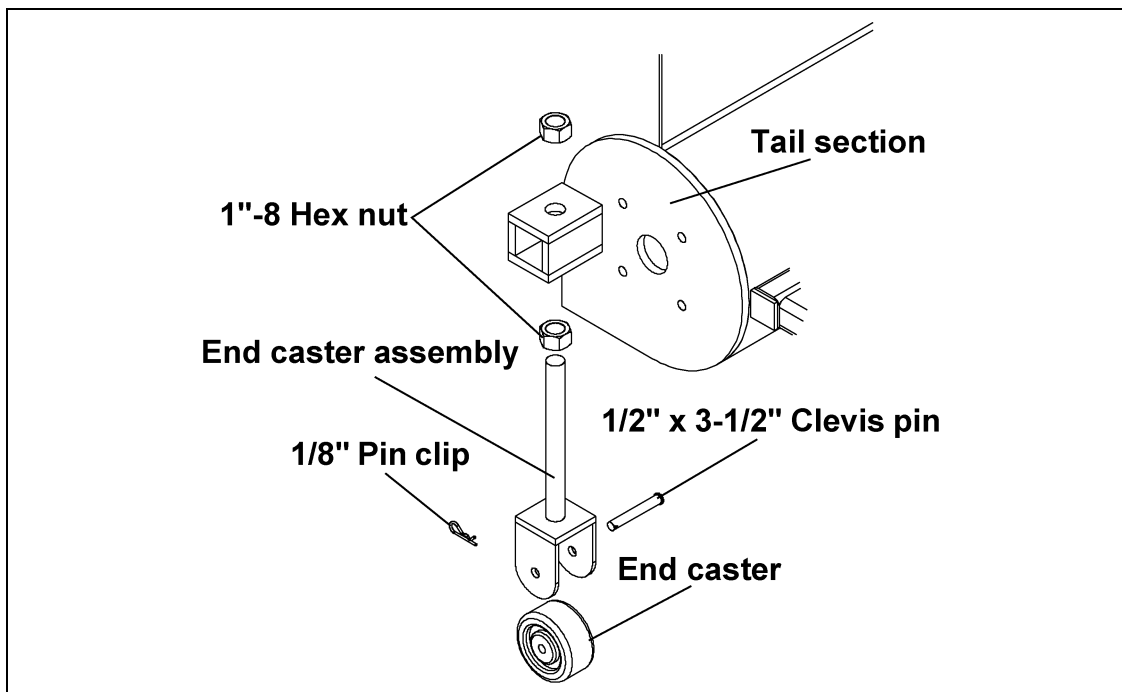

Figure 5I
B. **(All 16" Models and 12" Models with extensions.)** Assemble the end caster to the end caster assembly using the 1/2" x 3-1/2" clevis pin and 1/8" pin clip as shown in See Figure 5I.
C. Attach the end caster assembly to the end of the tail section using two (2) 1"-8 hex nuts.